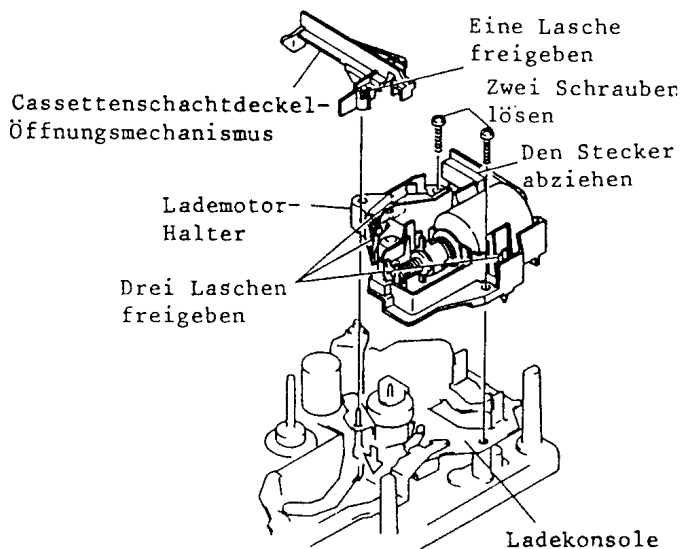

Abb. 7-15 Lademotorblock
15. Lademotorblock (Abb. 7-15)